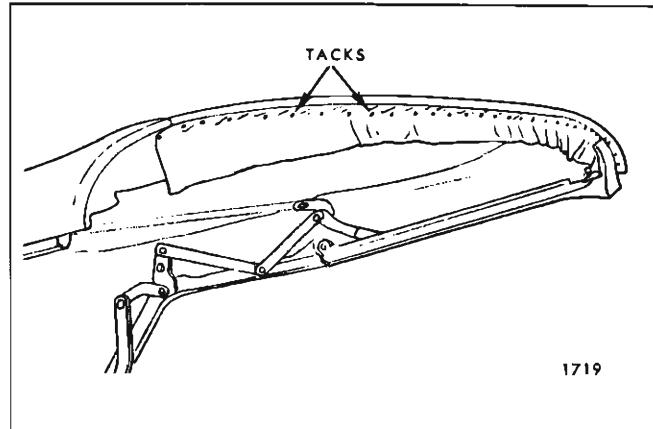

Fig. 1-I-24—Installation of Top Material to Front Roof Rail
surface of trim material along forward edge of front roof rail (Fig. 1I23).
49. Unlock top from windshield header and apply nitrile cement or neoprene-type weatherstrip adhesive to tacking area of front roof rail and corresponding surface of top material. Pull top trim material slightly forward so that pencil marks are on underside of front edge of front roof rail. Fasten top trim to cemented area and stay tack trim to rail (Fig. 1I24).